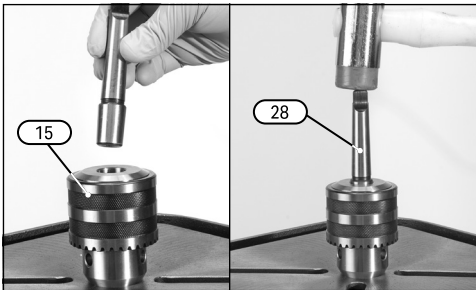

Fig. 7
- Screw the plunge handles (27) onto the hub and hand tighten.
6.5 Fitting Chuck and Arbor (Fig.7 – Fig.8)